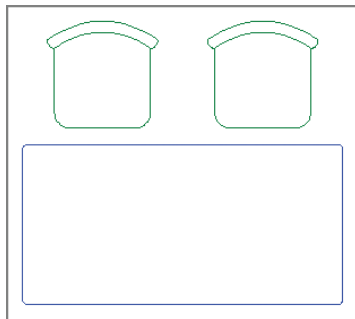

FIGURE 7.11 Copying a block reference
- Click the Copy tool in the Modify panel, type **L** (for Last), and press Enter twice. Click an arbitrary point on the drawing canvas, type $@2'6''<0$ (or $@80<0$ for metric), and press Enter to copy a chair to the right (see Figure 7.11). Press Esc to end the COPY command.